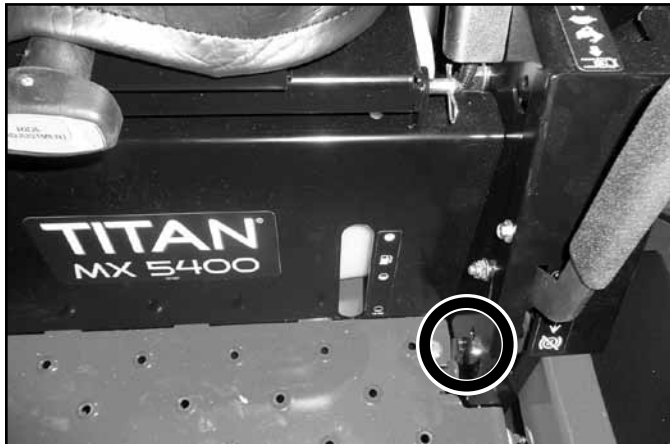
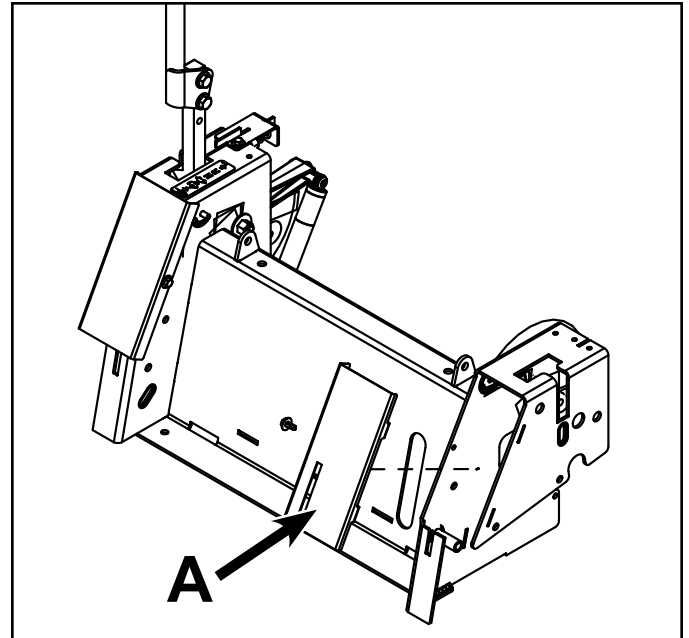

Fig. 122
Fig. 123
The Parking Brake Switch is located in the control box assembly, near the parking brake lever. Remove LH control cover (A) for better access (Fig. 122 and Fig. 123).